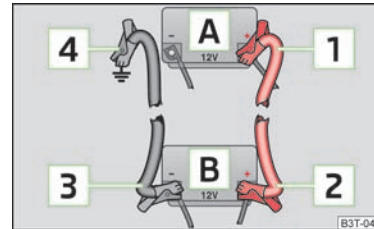

Fig. 163
- Attach one end **[1]** » Fig. 163 to the positive terminal of the discharged battery **[A]**.